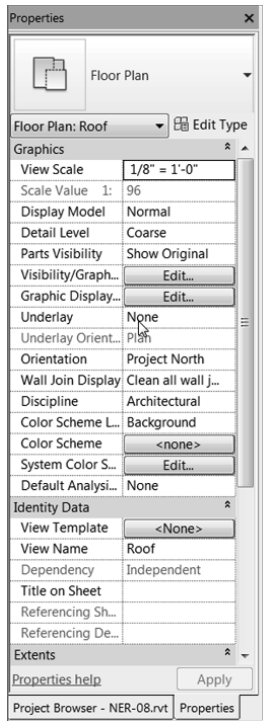

FIGURE 7.1: Changing the view's Underlay to None
3. In the view Properties, find the Underlay row, and select None from the menu, as shown in Figure 7.1.